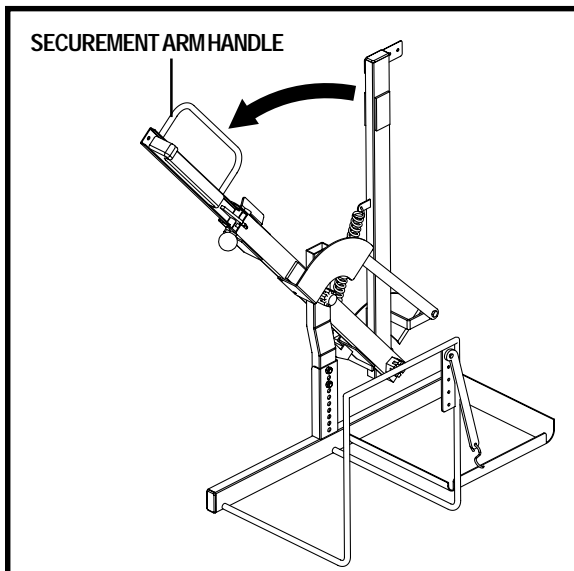

Figure 4. Carrier Platform Position
7. Grasp the handle on the securement arm and pull the arm toward you to lower the carrier platform to the ground. See figure 4.